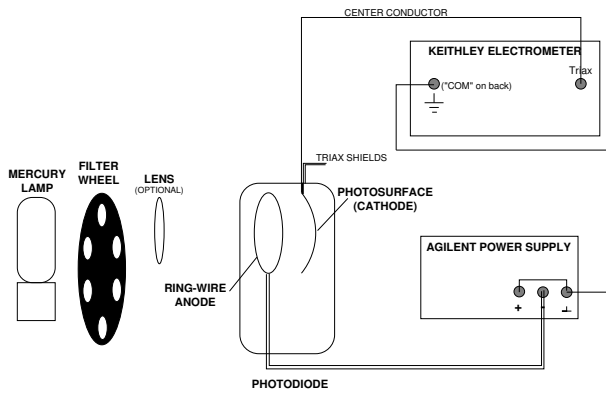

FIG. 1. Experimental arrangement for measuring the photoelectric effect. The lens focuses the light to avoid hitting the anode ring.
The apparatus is depicted in Figure 1. Familiarize yourself with all of the components before turning anything on or making any signal connections. Open the photocell enclosure and observe the photocell itself, noting the height and orientation of the anode ring. Be sure that the photocell is properly aligned with your optical path.
3. Because you are measuring such small currents (the currents you obtain with no retarding voltage should be on the order of hundreds of picoamps), the ammeter will be prone to pick up induced currents from ambient magnetic fields and your induction of charges while moving near the apparatus. You can avoid such interference by keeping the connecting wires as short and direct as possible and free of loops. For instance, you might want to use a short piece of copper wire to ground the positive terminal of the power supply as shown in Figure 1.